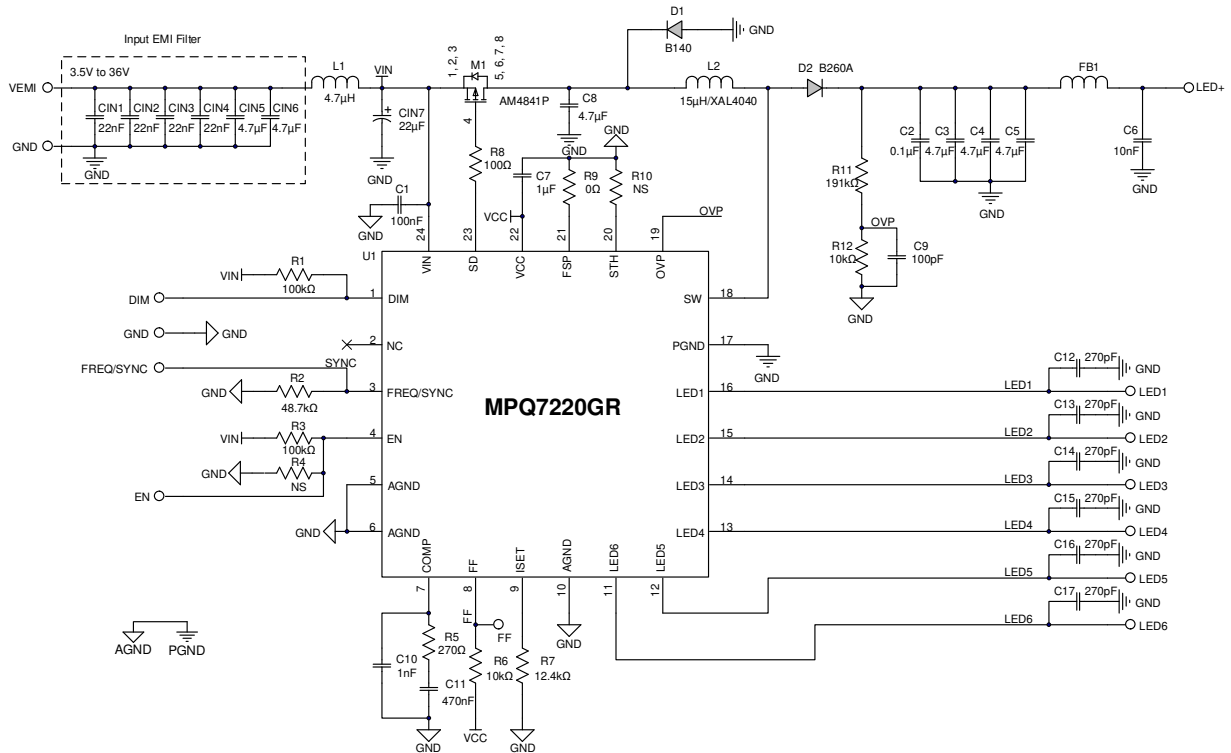

Figure 6: Typical Application Circuit for the QFN-24 Package with EMI Filters (I_{SET} = 100mA, f_{sw} = 450kHz)
10) The recommended PCB layout is based on Figure 6 on page 27.
Added Figure 6 and Figure 8; updated figure titles	27–28